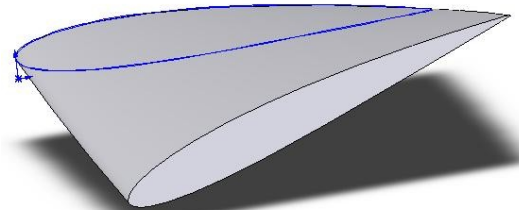

Figure 6: Twisted Aerofoil.
- To change the point of rotation change the x,y coordinates on the manually entered curve. You should end with result like those shown in Figure 6